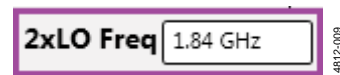

Figure 9. 2xLO Freq Entry Field
- The entry fields within the GUI enable manual entry of a desired value (for example, see Figure 9). Input values are written and entered by pressing **Enter**. The changes made for the PLL/VCO related controls and fields are applied with the **PLL Adjust** button to initiate the locking process. For controls other than the PLL/VCO, click **Apply Changes** button.